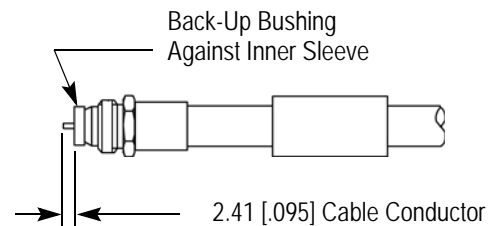

Figure 3
- Insert the inner sleeve into the retaining nut. Slide assembly over the dielectric and under the braid until the assembly bottoms. Refer to Figure 3, Detail A.
flush with the end of the inner sleeve to expose the conductor. Refer to Figure 3, Detail B.
- Slide the back-up bushing onto the conductor until it butts against the inner sleeve. Trim and deburr the conductor to the dimension shown in Figure 3, Detail C.